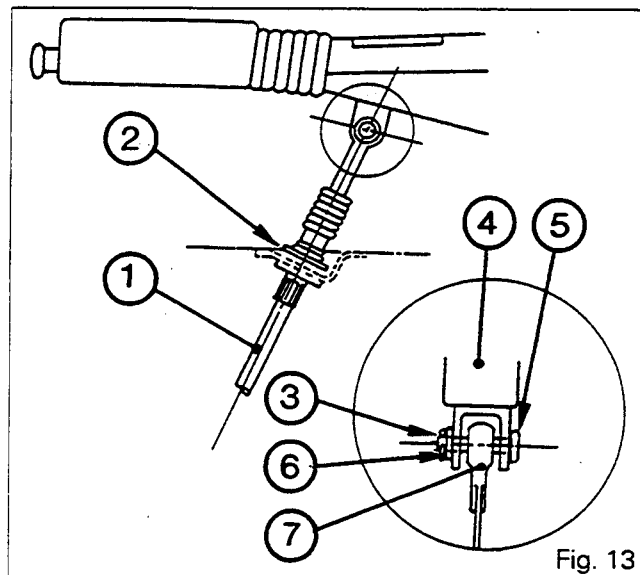

Fig. 13
69. Introduce the cable (1) from below towards the cab interior and fasten with the clip (2) (Fig. 13).
70. Fix the cable end (7) on the brake lever (4) with the pin (5), the washer (6) and the split pin (3) (Fig. 13).